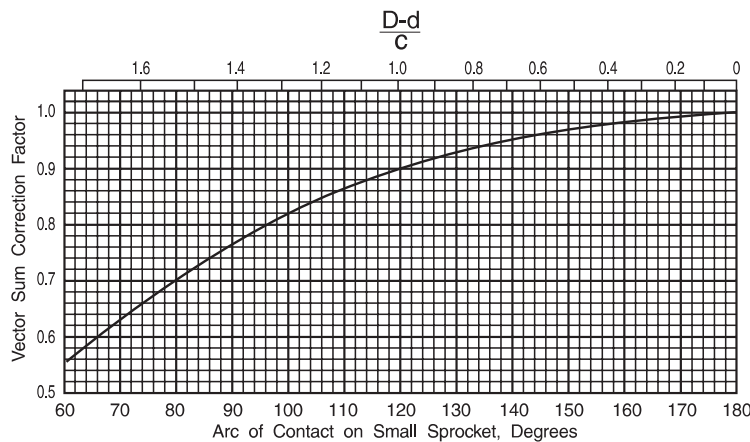

Figure 12 - Vector Sum Correction Factor
2. Using the value of  $(D-d)/C$  for the drive, find the vector sum correction factor using Fig. 12. Or, use the known arc of contact on the small sprocket where: